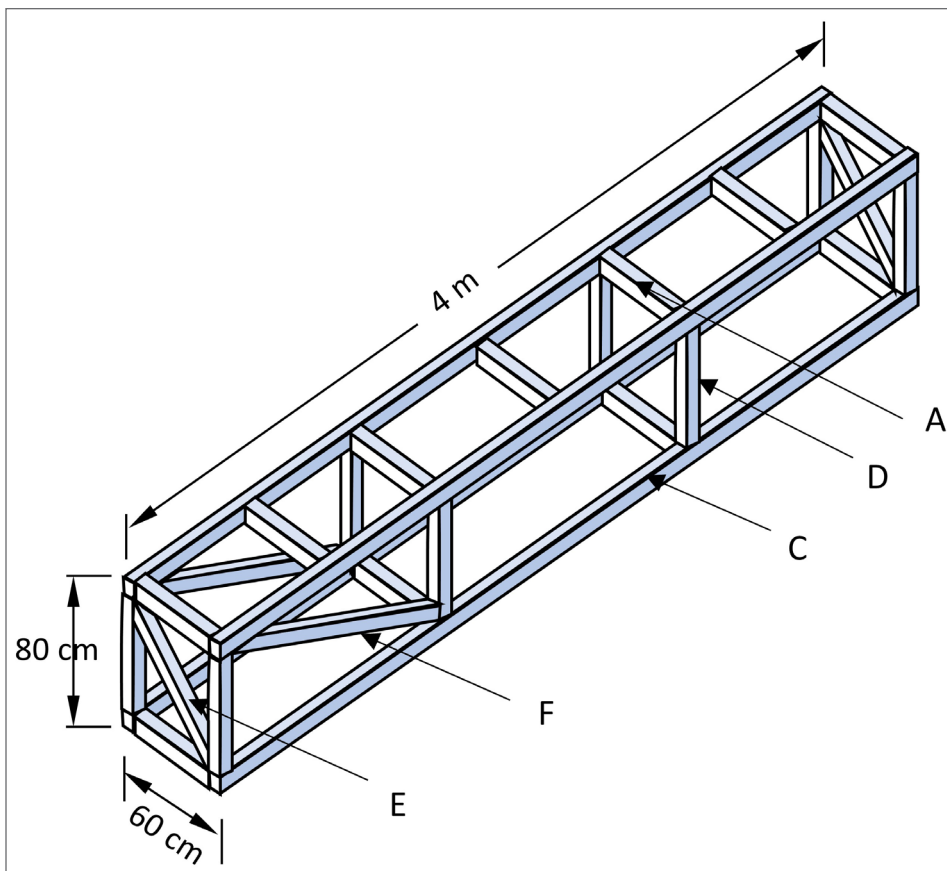

Figure 2. Wood frame for the table
- The drying table is the core of the dryer; it holds the trays and is attached to the chimney (Fig. 2).
- Using the materials listed in the table, build a sturdy wood frame that can support the weight of the trays when filled with product. We like to use the 54 cm pieces (shown in Fig. 2 as A) as slats across the top to support the trays.